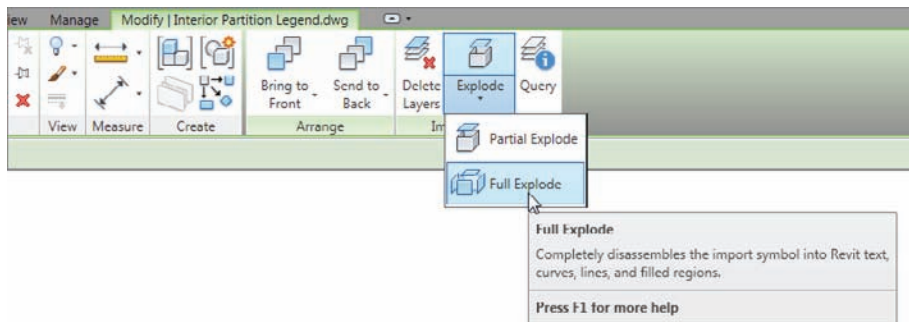

FIGURE 11.58 Click the Full Explode button on the Modify | Interior Partition Legend.dwg tab.
2. On the Modify | Interior Partition Legend.dwg tab, click **Explode > Full Explode**, as shown in Figure 11.58.